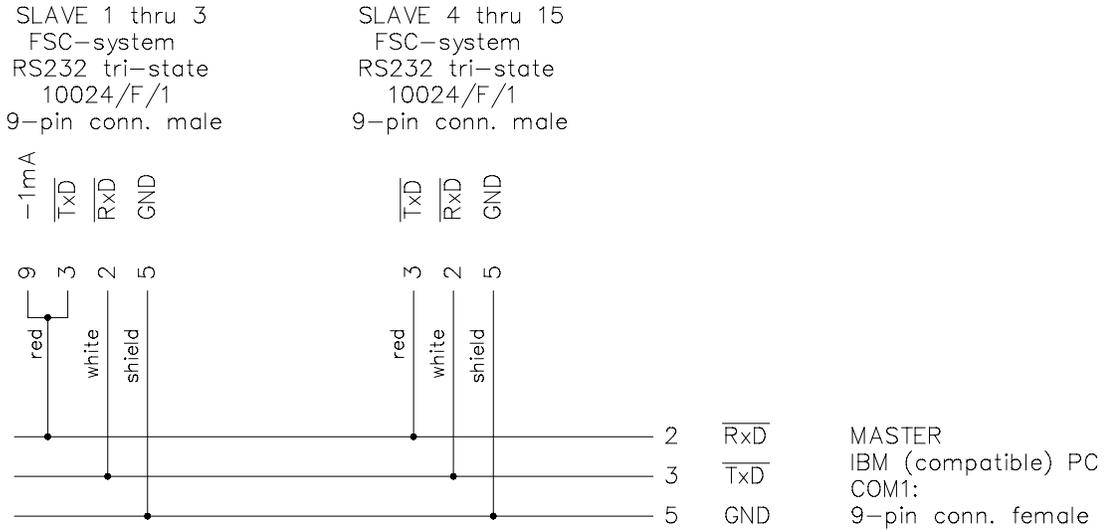

Figure 17 Connection between FSC system and FSC user station:
- Using a 9-pin connector without hardware handshake (see Figure 17).